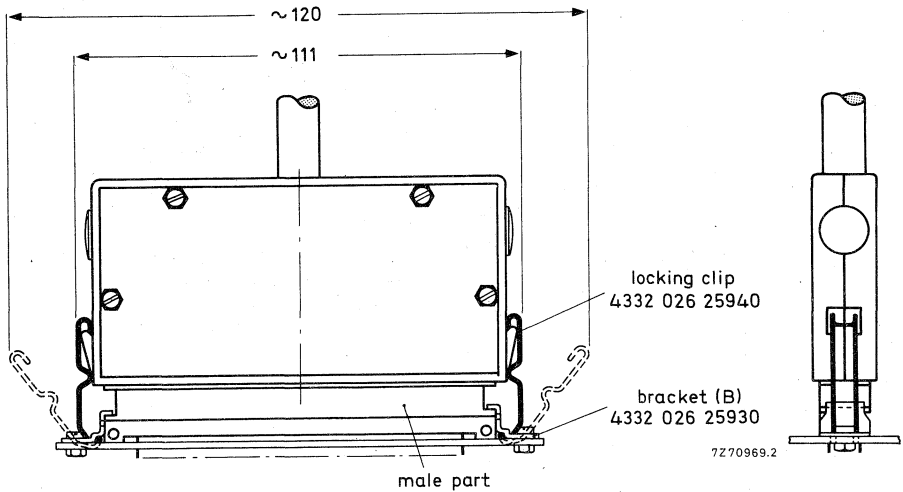

Fig. 43 Cable to panel application.
bracket (B), see Fig. 43	25930